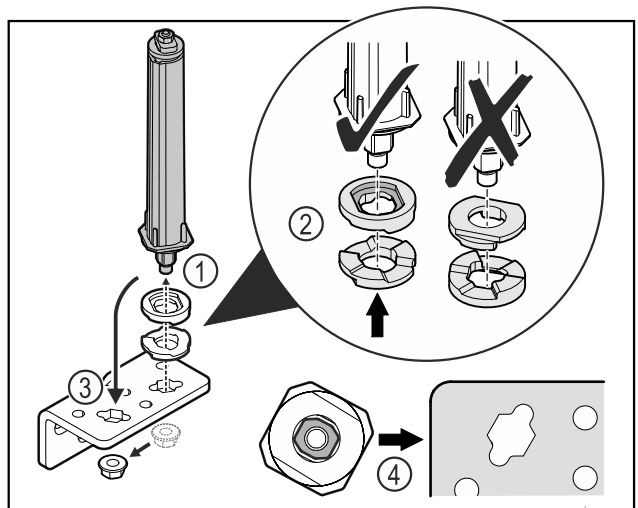

Fig. 28
- ▶ Loosen the nut and remove the door closing system Fig. 28 (1).
- ▶ Ensure that the height adjustment discs are correctly aligned Fig. 28 (2).
- ▶ Move the door closing system to the hinge angle and secure it with the nut Fig. 28 (3).
- ▶ When inserting, ensure that the door closing system is correctly aligned Fig. 28 (4).